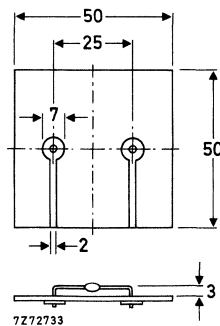

Fig. 2 Mounted on a printed-circuit board.
2. Thermal resistance from junction to ambient; device mounted on a 1,5 mm thick epoxy-glass printed-circuit board; Cu-thickness $\geq 40\text{ }\mu\text{m}$; Fig. 2